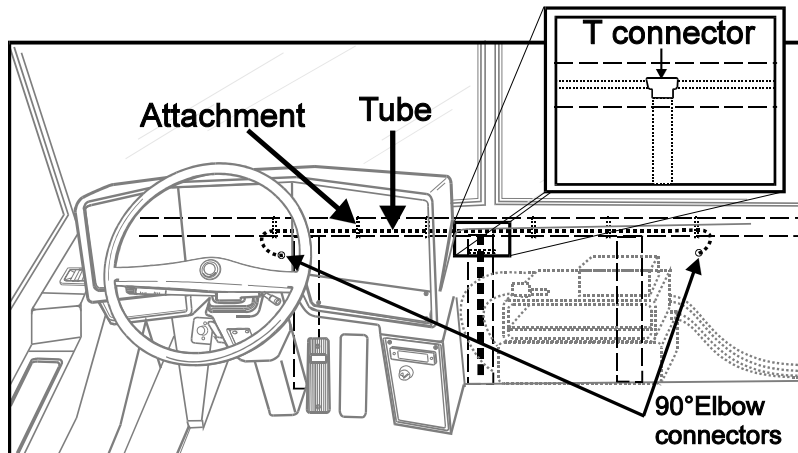

FIGURE 1: H3 VEHICLE DRIVER AREA
1. In order to access windshield washer tubes, remove front panel located on right side of dash (Fig. 1 & 2).